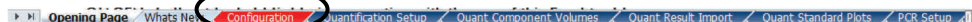

Figure 8. Opening the "Configuration" worksheet.
10. Click the “Configuration” worksheet tab (Figure 8).